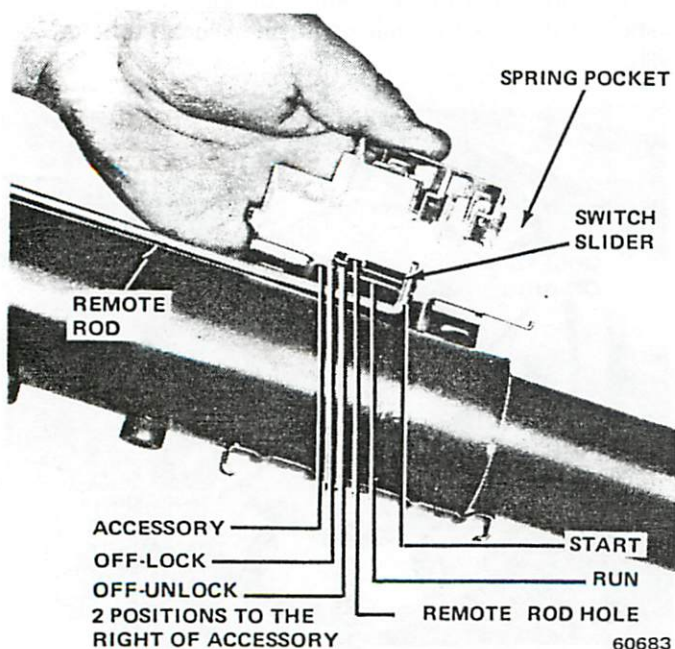

Fig. 2J-35 Positioning Ignition Switch
(b) Move slider two positions toward right to Off-Unlock position (fig. 2J-35).
**NOTE:** *Although it is possible to disassemble the tilt steering column down to the housing with the column in the vehicle, the column must be removed if more extensive disassembly is necessary. If the column is removed, use Steering Column Support Fixture J-23074 to mount the column assembly in a vise (fig. 2J-5).*
(1) Place front wheels in straight-ahead position.
(2) Disconnect battery negative cable.
(3) Cover painted areas of column.
(4) Remove steering wheel.
(5) Remove gearshift lever retaining pin and remove gearshift lever.
(6) Remove lock plate cover. Use two screwdrivers to pry cover off lock plate and out of housing.
(7) Compress lock plate and unseat steering shaft snap ring as follows: